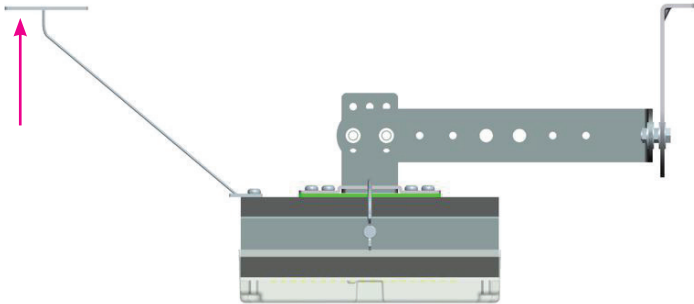

FIG 6
3. Secure the metal cord (already with one end attached to the LED head) to the fixture, for secure purpose. See FIG.6.
4. Secure the metal cord(s) (already with one end attached the LED head, see FIG. 6) to the fixture, for secure purpose.